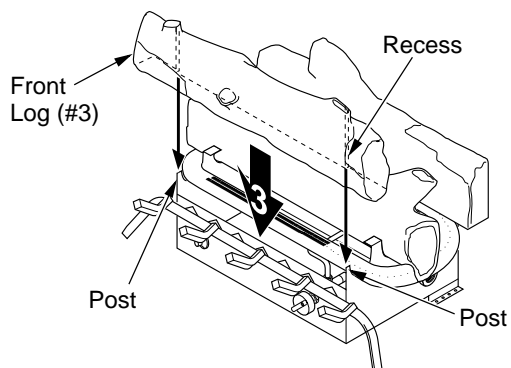

Figure 22 - Installing Front Log (#3)
3. Locate the recesses on the back of the front log (#3). Fit these recesses between the posts of the grate base (see Figure 22).